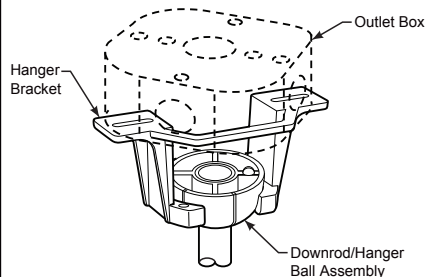

Figure 4
4. Loosen the two set screws and locking nuts in the downrod support of the motor assembly. Route the red, gray and yellow wires through the downrod. (Figure 4)
2. Carefully lift the fan and seat the downrod/hanger ball assembly on the hanger bracket that was just attached to the outlet box. Be sure the groove in the ball is lined up with tab on the hanger bracket. (Figure 4)
3. Connect wires using connectors as shown in Figure 4.
- ☐ 4. To make fan operational, install two 3V batteries (included) in hand-held remote transmitter, with fan power off. Then, follow the remote code setting process. If not used for long periods of time, remove battery to prevent damage to transmitter. Store the remote away from excessive heat or humidity. (Figure 4)